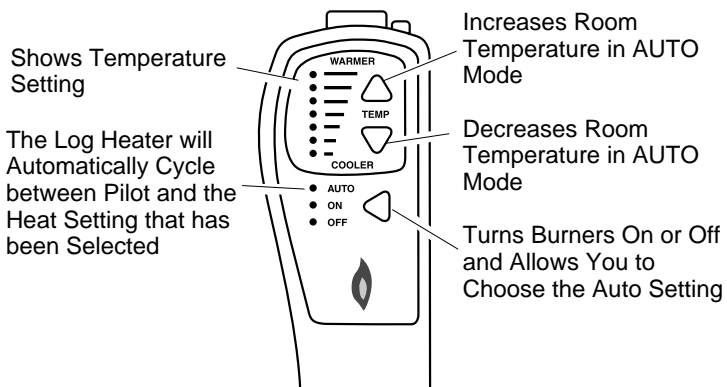

Figure 28 - Thermostat Hand-Held Remote Control Unit Selections (GHRCT Series Only)
- 2b. Press the AUTO/ON/OFF button on the hand-held remote control (see Figure 28, page 16). The lights to the left of the button will show AUTO, ON, or OFF.